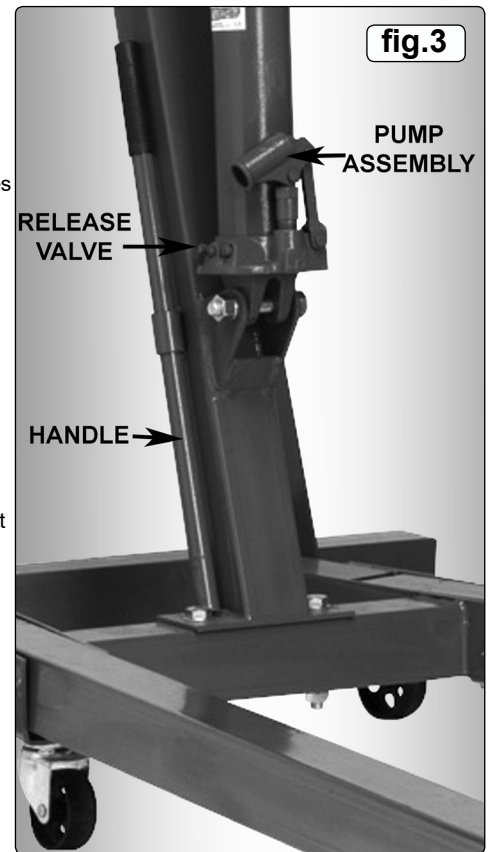

fig.3
- 3.1.5.For control system, see fig.3 for release valve, pump assembly and handle. Operation is explained in Section 5.